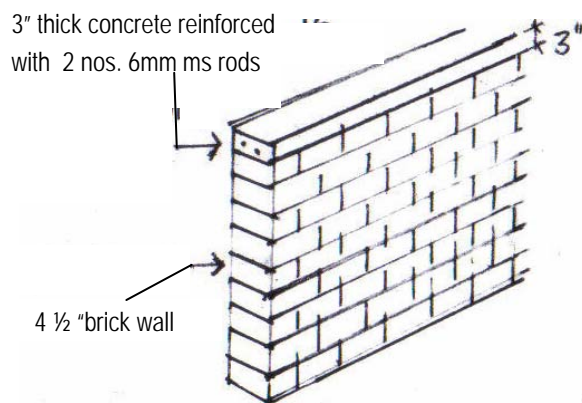

Fig 16 - **Reinforced Brick wall**
- Made sure that when constructing 4 ½ " brick walls, a layer of concrete is laid after every 3' height, reinforced with 2 Nos. 6 mm M. S. rods (See fig. 16)